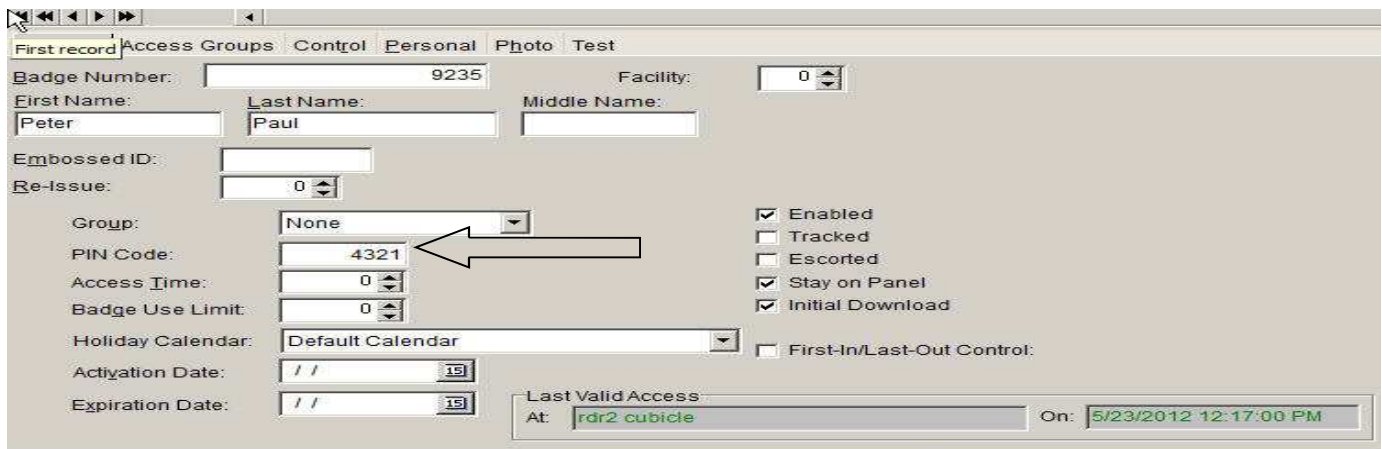

Figure 3.
2) A four digit **PIN** code must be programmed into the “Personnel” record. The “PIN Code” must be four digits and must not begin with a leading zero. Refer to figure 3.